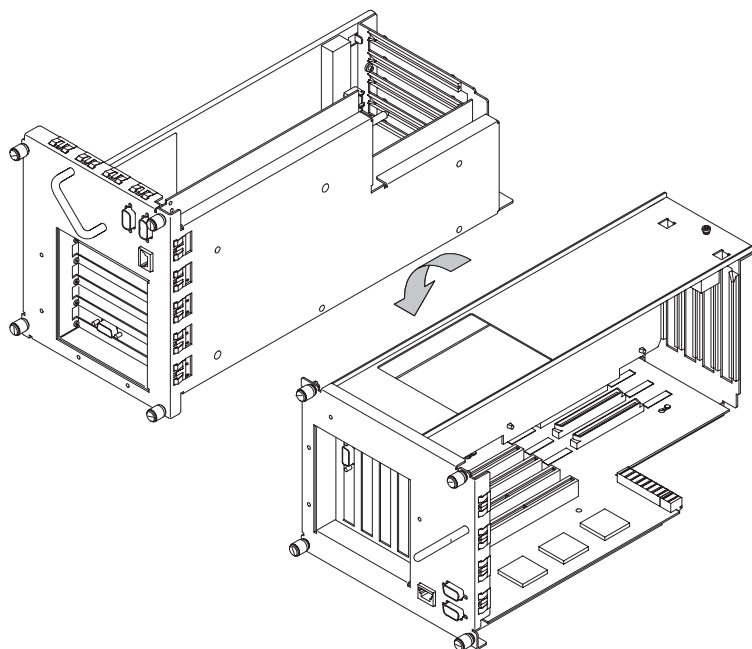

Figure 5-40. Rotating the EISA Assembly Back
10. Rotate the unit back 90 degrees and grasp handle. See Figure 5-40.